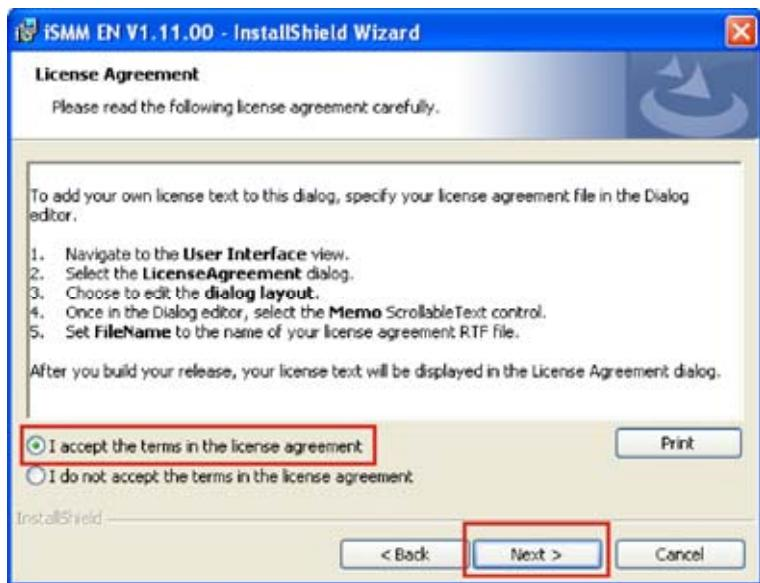

Figure 7-32: iSMM License Agreement
Step 72: The License Agreement screen appears. (Figure 7-32)
Step 73: Select "I accept the terms of the license agreement." (Figure 7-32)
Step 74: Click **NEXT** to continue.(Figure 7-32)